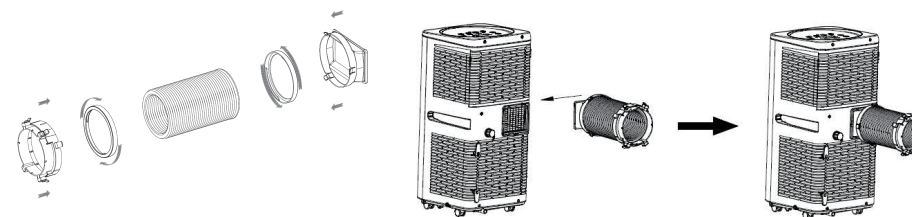

Fig 7
- (1) Fasten the 2 clip rings into the exhaust hose in a clockwise direction.
- (2) Twist both ends of the exhaust hose into the square fixing clip and the flat fixing clip.
- (3) Insert the square fixing clip into openings at back of the air conditioner (see Fig.7).
- (4) Put the other end of the exhaust hose to a near windowsill.